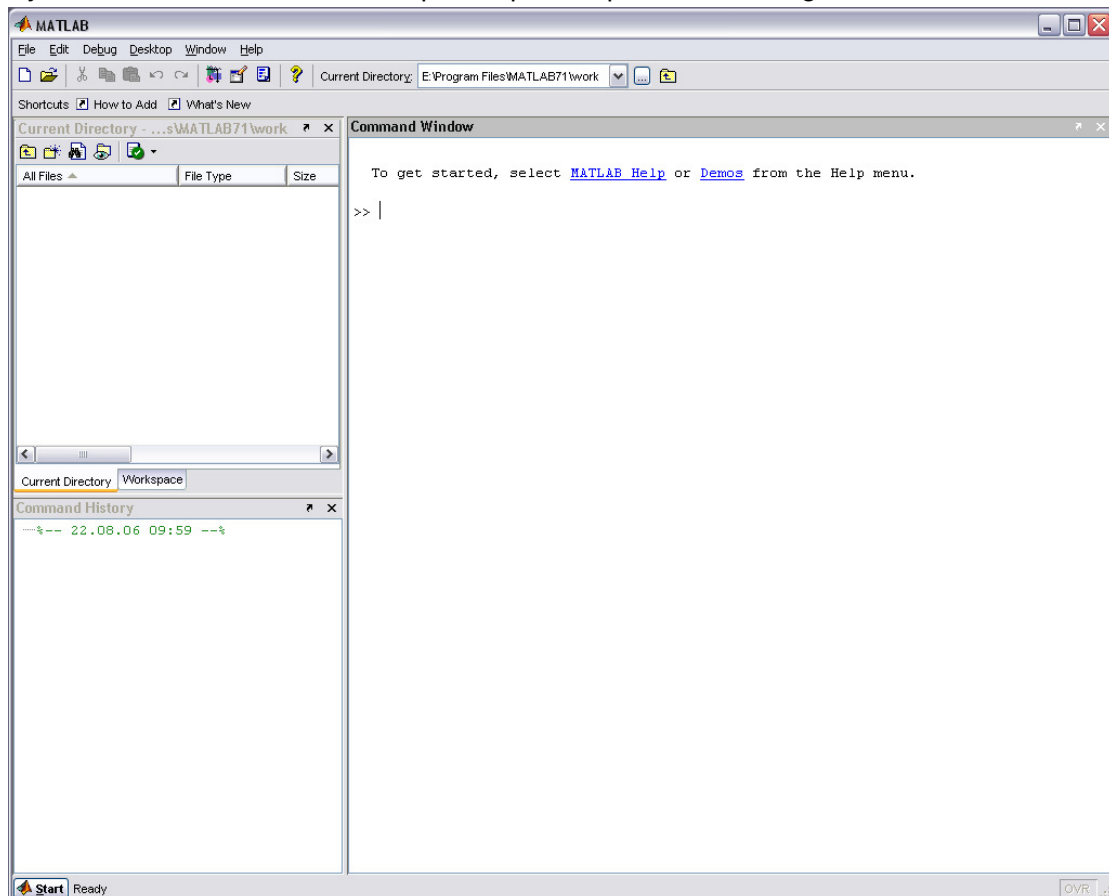

Figure 3 MATLAB® Desktop
By default the MATLAB® desktop will open as presented in Figure 3.
You may arrange the layout according to preferences. The most important window is the **Command Window** marked in Figure 3. All of the commands are input there and can be executed by typing them and pressing 'Return / Enter'. You may use it also for directories change, workspace declared variable lookup, generating help on functions and toolboxes etc.
All of the commands are stored in **Command History** (Figure 3). They can be dragged from there to the Command Window and executed. You can also double click on the command to execute it immediately.
- Open MATLAB and click on the 'Browse for folder' (Figure 3) button. Select the folder you want to work with.